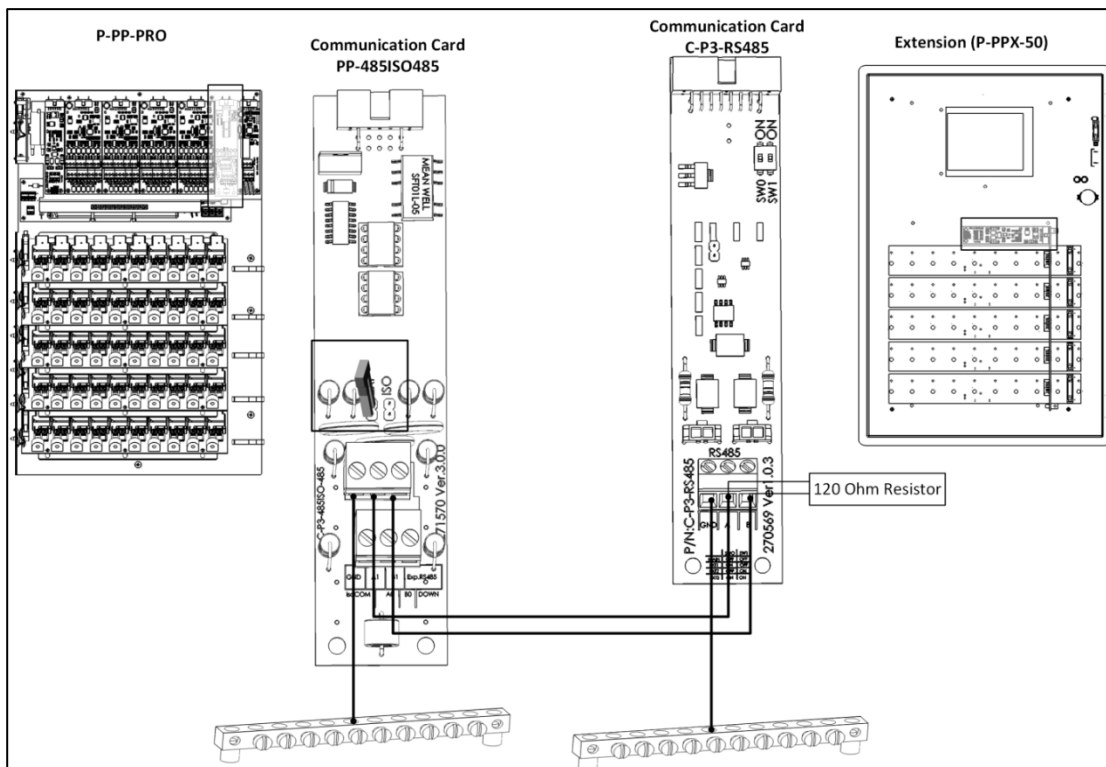

Figure 49: Expansion Box – Controller Termination
- If an Expansion unit is installed at the end of a chain, install a 120 Ohm termination resistor (supplied by Munters) (Figure 49).